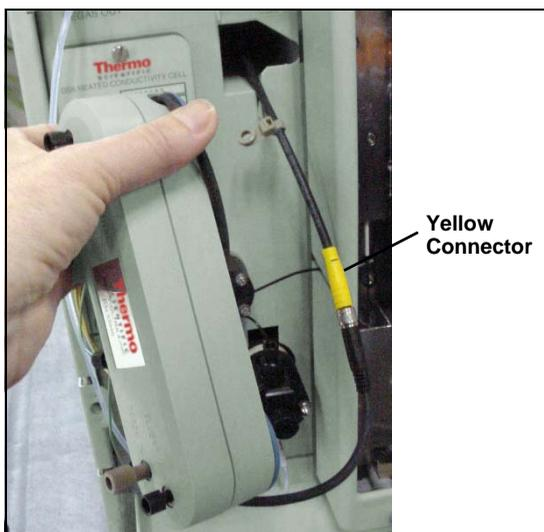

Figure 5-14. Removing the Suppressor
6. Continue pulling the suppressor out until the yellow connector on the cable inside the Dionex ICS-1100 is outside the panel (see Figure 5-14).